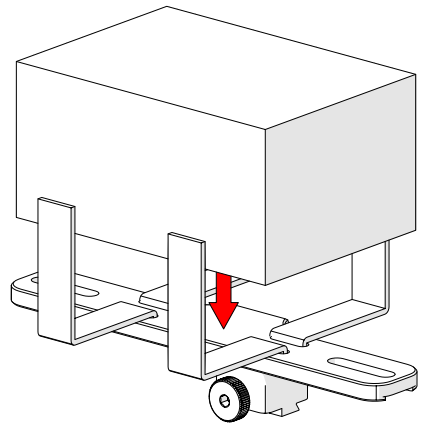

Fig. 150 - Place preamp and wrap velcro
2. Centre and place the preamp on the bracket wrapping the velcro around the preamp (*Fig. 150*).